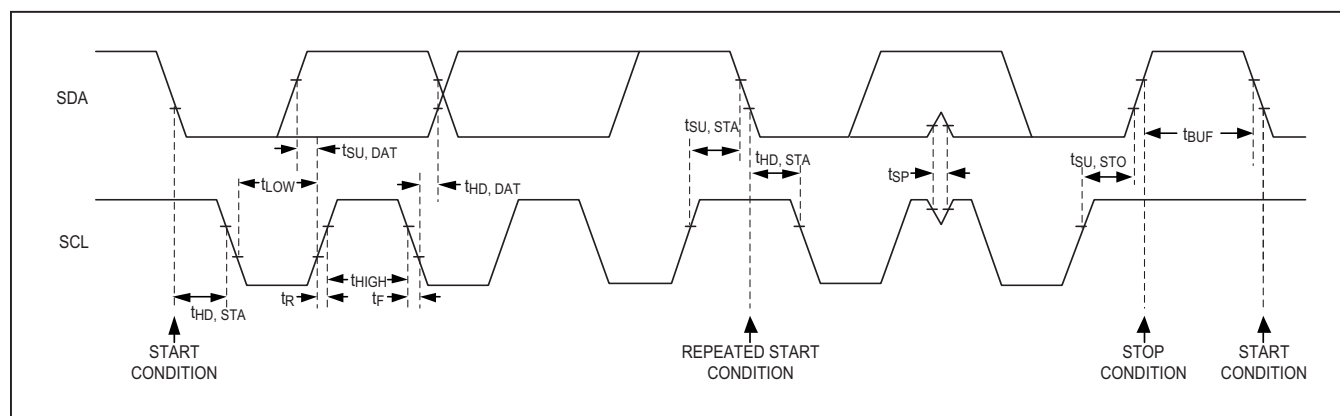

Figure 9. Detailed I²C Timing Diagram
Figure 9 shows the 2-wire interface timing diagram. The master generates SCL and initiates data transfer on the bus. The master device writes data to the MAXM86161 by transmitting the proper slave address followed by the register address and then the data word. Each transmit sequence is framed by a START (S) or REPEATED START (Sr) condition and a STOP (P) condition. Each word transmitted to the MAXM86161 is 8 bits long and is followed by an acknowledge clock pulse. A master reading data from the MAXM86161 transmits the proper slave address followed by a series of nine SCL pulses. The MAXM86161 transmits data on SDA in sync with the master-generated SCL pulses. The master acknowledges receipt of each byte of data. Each read sequence is framed by a START (S) or REPEATED START (Sr) condition, a not acknowledge, and a STOP (P) condition. SDA operates as both an input and an open-drain output. A pullup resistor is required on SDA. SCL operates only as an input. A pullup resistor is required on SCL if there are multiple masters on the bus, or if the single master has an open-drain SCL output. Series resistors in line with SDA and SCL are optional. Series resistors protect the digital inputs of the MAXM86161 from high voltage spikes on the bus lines, and minimize crosstalk and undershoot of the bus signals.
The detailed timing diagram of various electrical characteristics is shown in Figure 9.